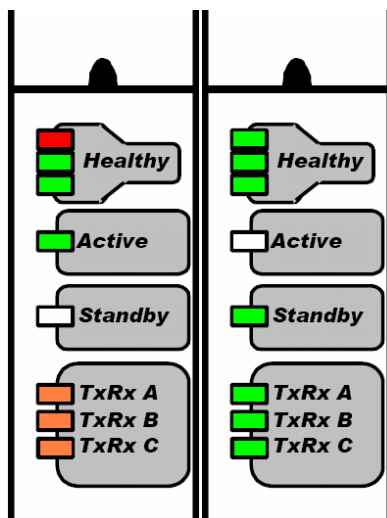

Figure 15-16: Replacement
- 2) The replacement module will go into standby operation. Check that all its *Healthy* LEDs are green, its *Standby* LED is steady green, and its *TxRx* LEDs are blinking green, as shown in Figure 15-16. This will take a few seconds.